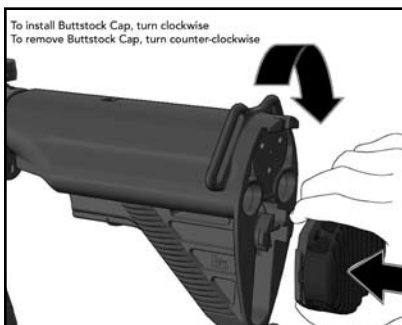

Fig. 20 – Removing the disassembly tool
- a. Rotate the recoil pad counter clockwise one quarter turn and separate the recoil pad from the buttstock. Remove the MR762A1 disassembly tool (Fig. 20, 21).